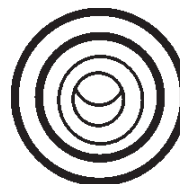

Figure 43. Pre-Heat Lamp
- Verify that the **pre-heat lamp** (Figure 43) is lit. The lamp will turn off when the engine has started.